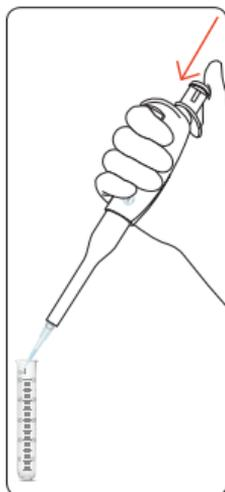

Figure 8. Dispensing Angle
3. Dispense: Place the pipette tip at an angle ( $10^{\circ}$  to  $45^{\circ}$ ) against the inside wall of the receiving vessel. Depress the push button smoothly to the First Stop. (figure 8)
3. Dispense: Place the pipette tip at an angle ( $10^{\circ}$  to  $45^{\circ}$ ) against the inside wall of the receiving vessel. Depress the push button smoothly to the First Stop. Wait one second. (figure 8)